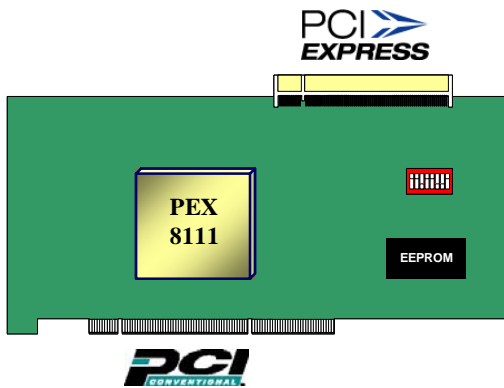
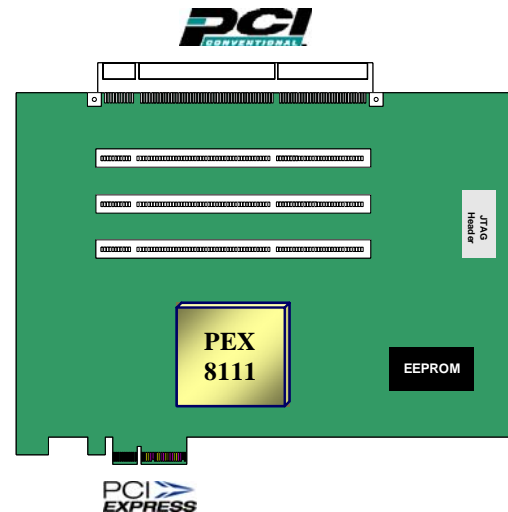

Figure 4. Reverse Bridge RDK
Figure 5. Forward Bridge RDK
**PEX 8111 Reference Design Kits (RDK)** enable rapid customer design. The Reverse Bridge RDK (Figure 4) includes a standard PCI connector (card-edge) and a standard PCI Express slot on the secondary side. The Forward Bridge RDK (Figure 5) includes the PEX 8111 with a single x1 PCI Express port (card-edge) and four PCI slots on the secondary side. Each PEX 8111RDK can be installed in a motherboard to evaluate PEX 8111 features and validate customer software.